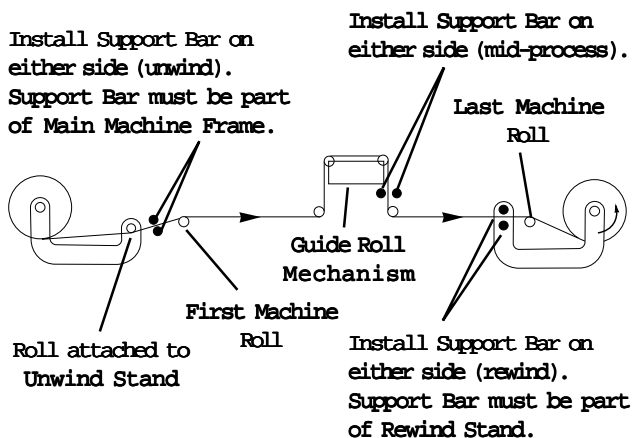

FIGURE 4
- B. Secure Mounting Bracket to customer supplied sensor mounting bar (1 in. [25 mm] square) mounted across web (See Fig. 4).